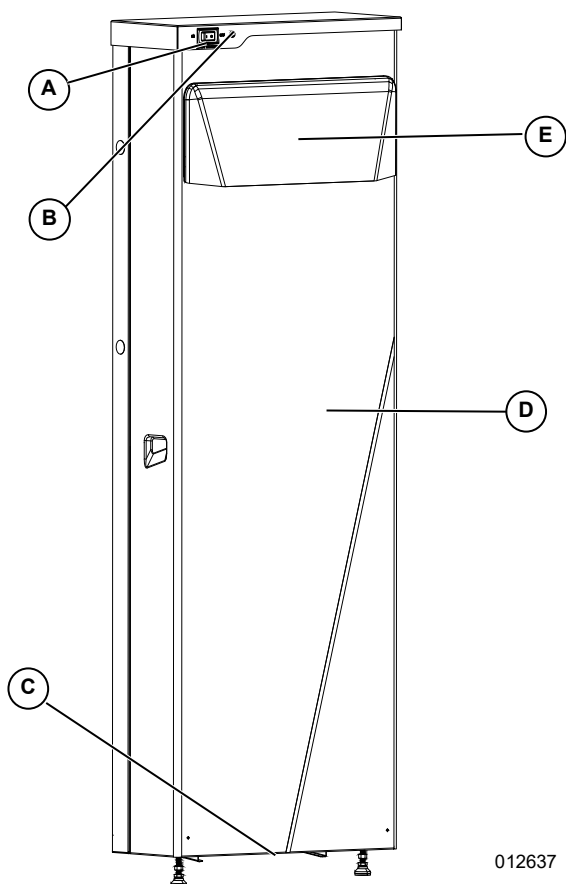

Figure 2-6. Component Locations
See Figure 2-6. Battery Disconnect Switch (A) disconnects the battery stack from the battery monitoring system (BMS) electronics.
See Figure 2-6. The color and strobing interval of LED (B) communicates battery status.